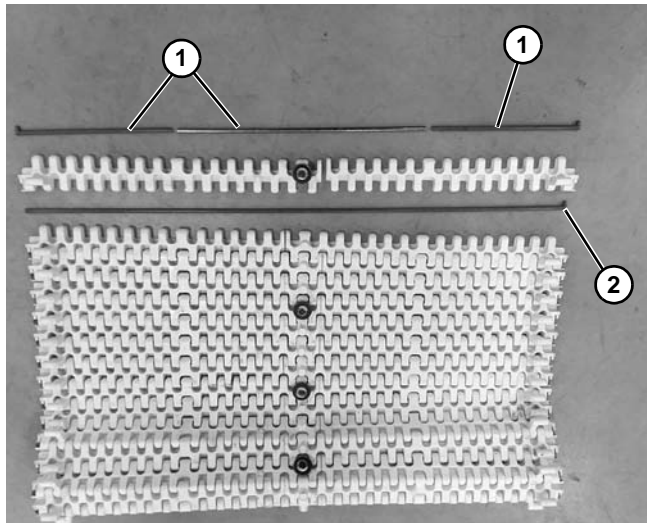

Figure 34
On 610 mm wide conveyors, DO NOT remove rods located at the bearing. These links are made up of 3 short rods (Figure 34, item 1), not a single piece rod (Figure 34, item 2).